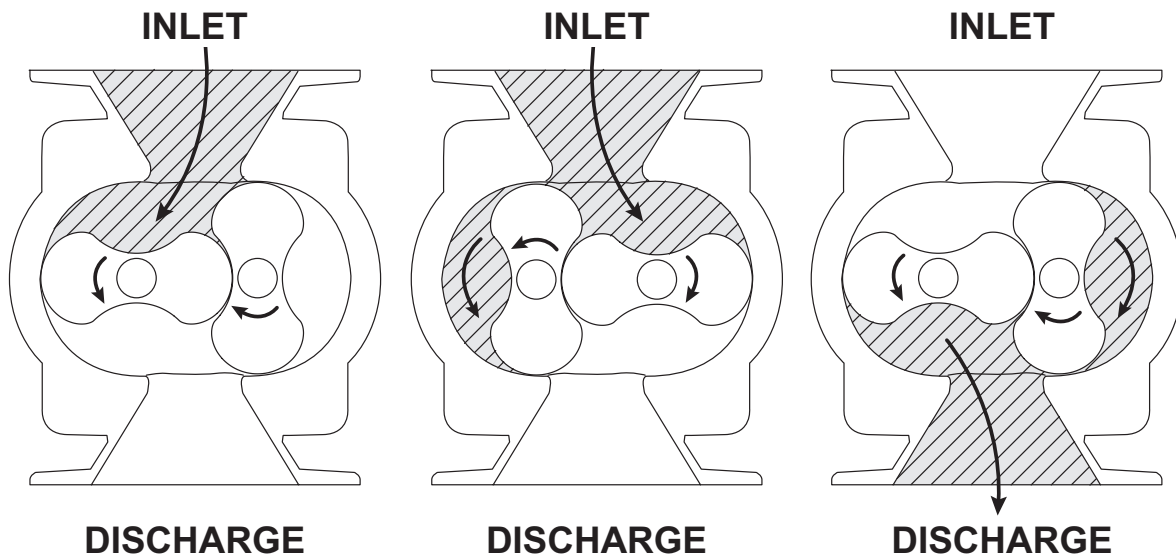

Figure 4-1 – General Operation Principle
**Figure 4-1 – General Operation Principle** illustrates the air movement within the machine. The air moves not between the rotors but between the rotors and the side of the housing.